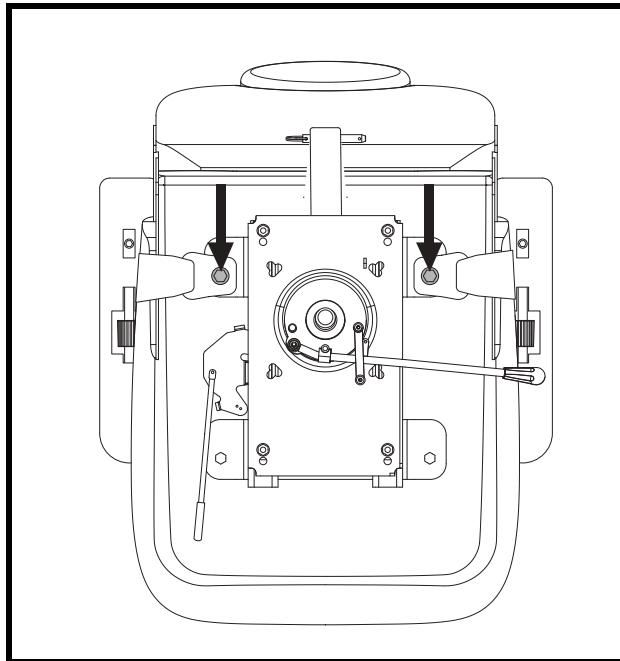

Figure 18. Positioning Belt Bolts
2. Place the seat upside down so that you can see the bottom of the seat base. See figure 18.